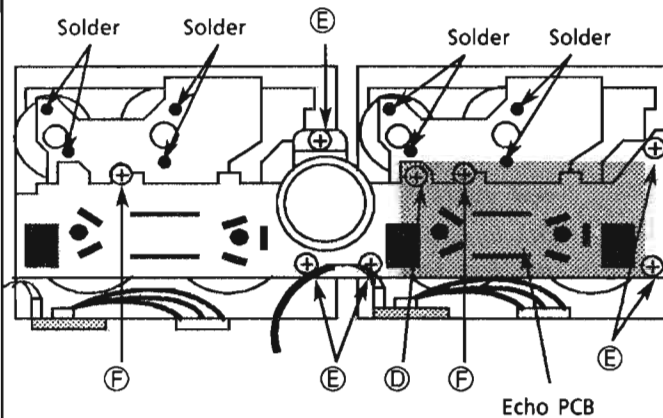

Fig 20
4. Remove the 7 screws (E), (F) fixing the bracket (Fig 20).
3. Remove the 7 screws ⑤, ⑥ fixing the bracket (Fig 20).
5. Remove the 4 screws ③ fixing the reel and cam motor.